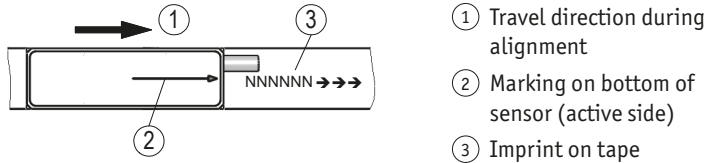
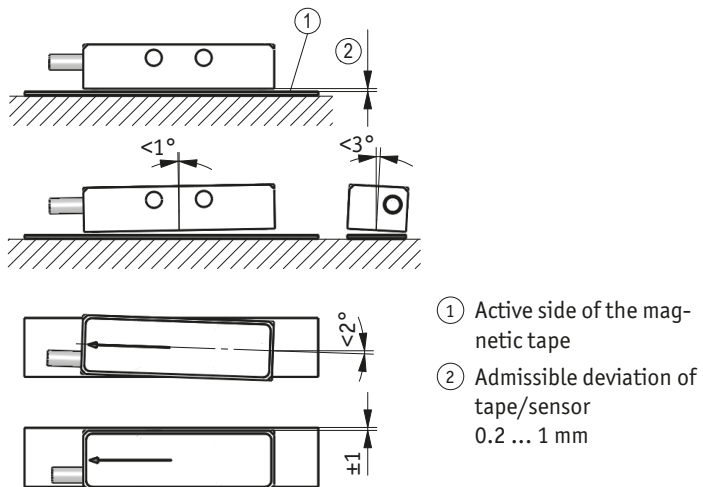

Fig. 6: Sensor alignment / orientation
Fig. 7: Assemblage sensor / magnetic tape, gap measure, tolerances
► Take care that the magnetic sensor is aligned correctly in order to ensure optimum sensing (see **Fig. 6**, **Fig. 7**).
2. The direction of the arrow of the sensor imprint must tally with the direction of the arrow of the tape imprint for alignment (**Fig. 6**).
The position of the sensor regarding the magnetic tape is exactly defined. When mounting, special care shall be taken to maintain an air gap between tape and sensor over the whole measurement distance whether the tape or sensor is moved or not (see **Fig. 7**). As a mounting aid you may use the enclosed spacing template.
- The distance tolerances were not observed over the whole measuring length or the sensor scrapes the magnetic tape (see Fig. 7).
- The magnetic sensor has been mounted with the active side turned away from the tape (see Fig. 6, Fig. 7).
- Magnetic sensor has not been aligned according to Fig. 6, Fig. 7.